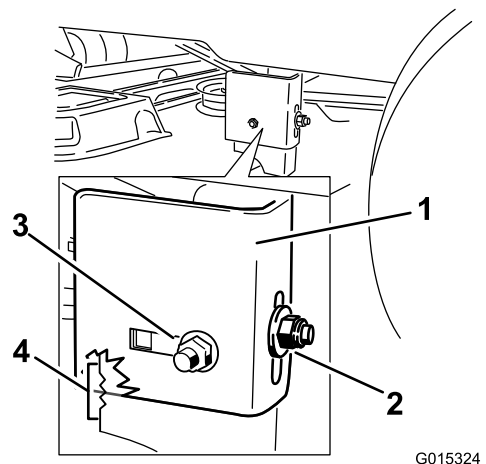

Figure 56
- Loosen the rear locking nut on the hanger bracket (Figure 56).
- Loosen the side locking nut on the hanger bracket just enough to allow the hanger to be adjusted (Figure 56).
13. Stop the deck at the adjusted position, and tighten the side locking nut on the hanger bracket to hold the new position (Figure 56).